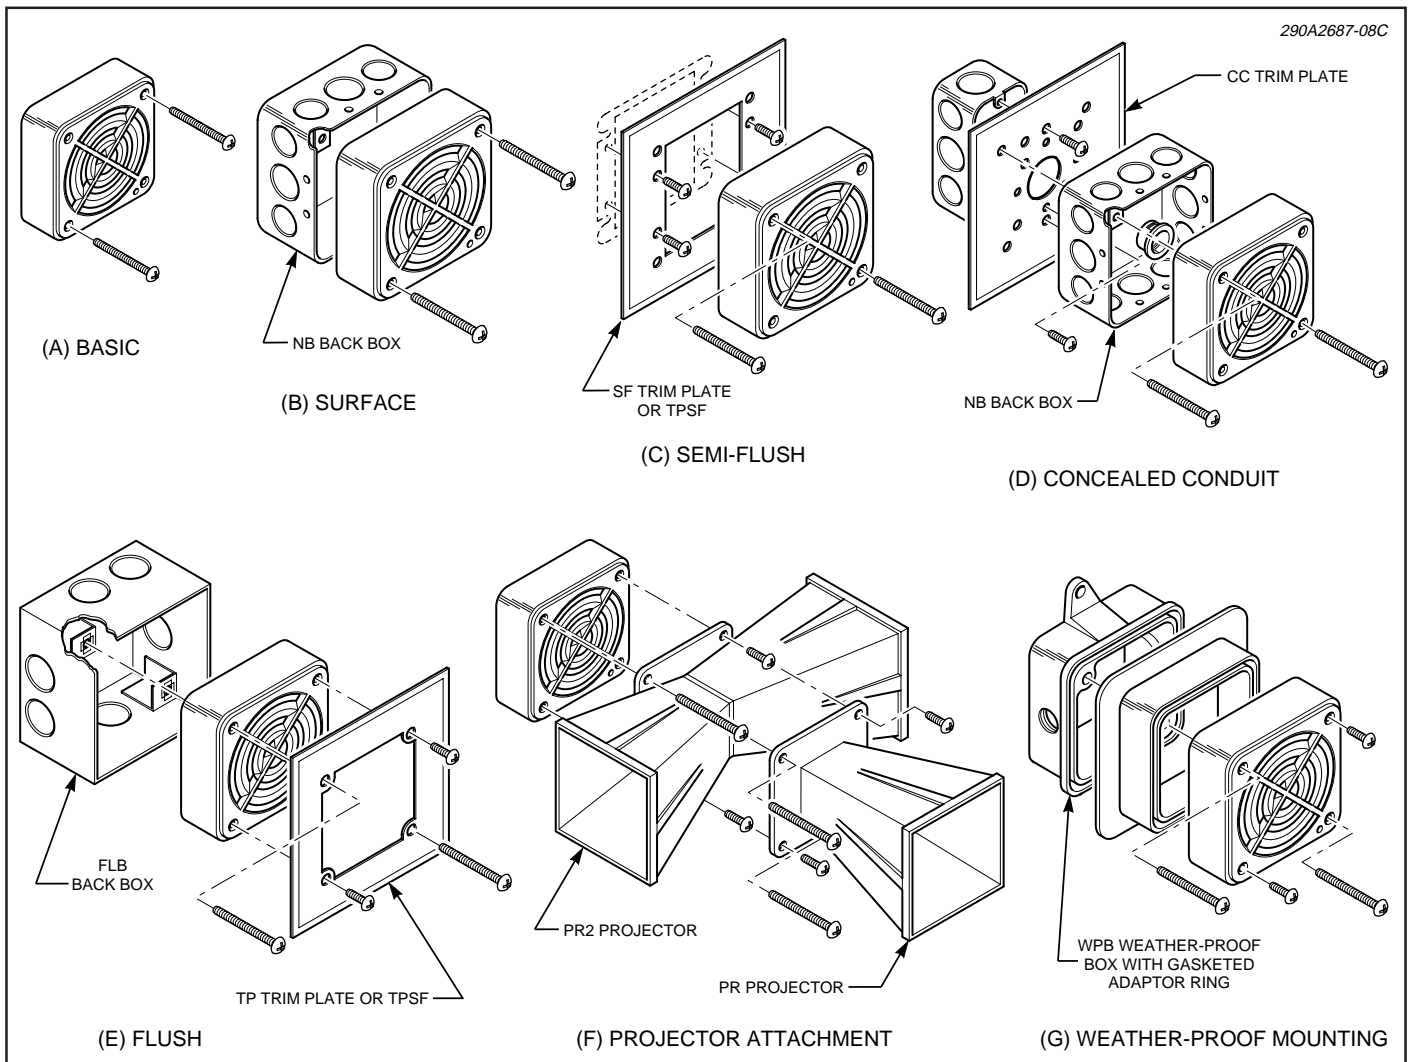

Figure 5. Mounting Arrangements.
4. *Mounting Arrangements (see figure 5).*